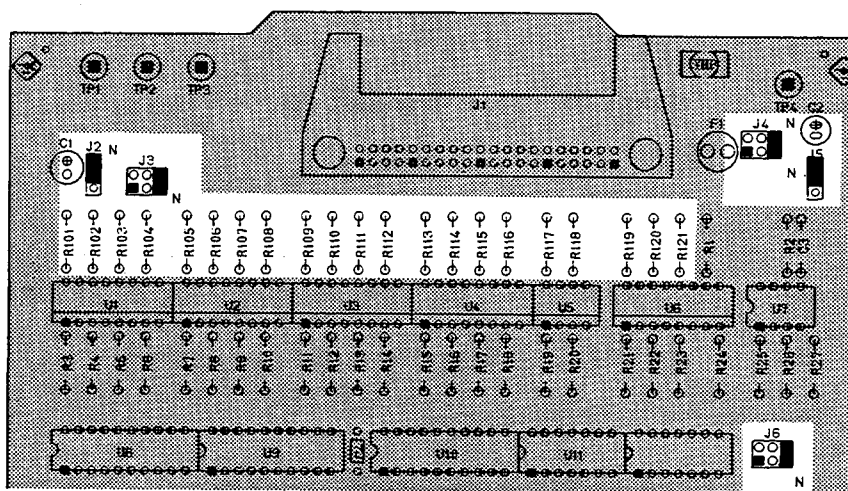

Figure 1-21. Jumper Settings
8. Set the jumpers on the handler interface board as shown in Figure in 1-21. Figure 1-21 shows the jumper settings when the board is shipped from the factory.